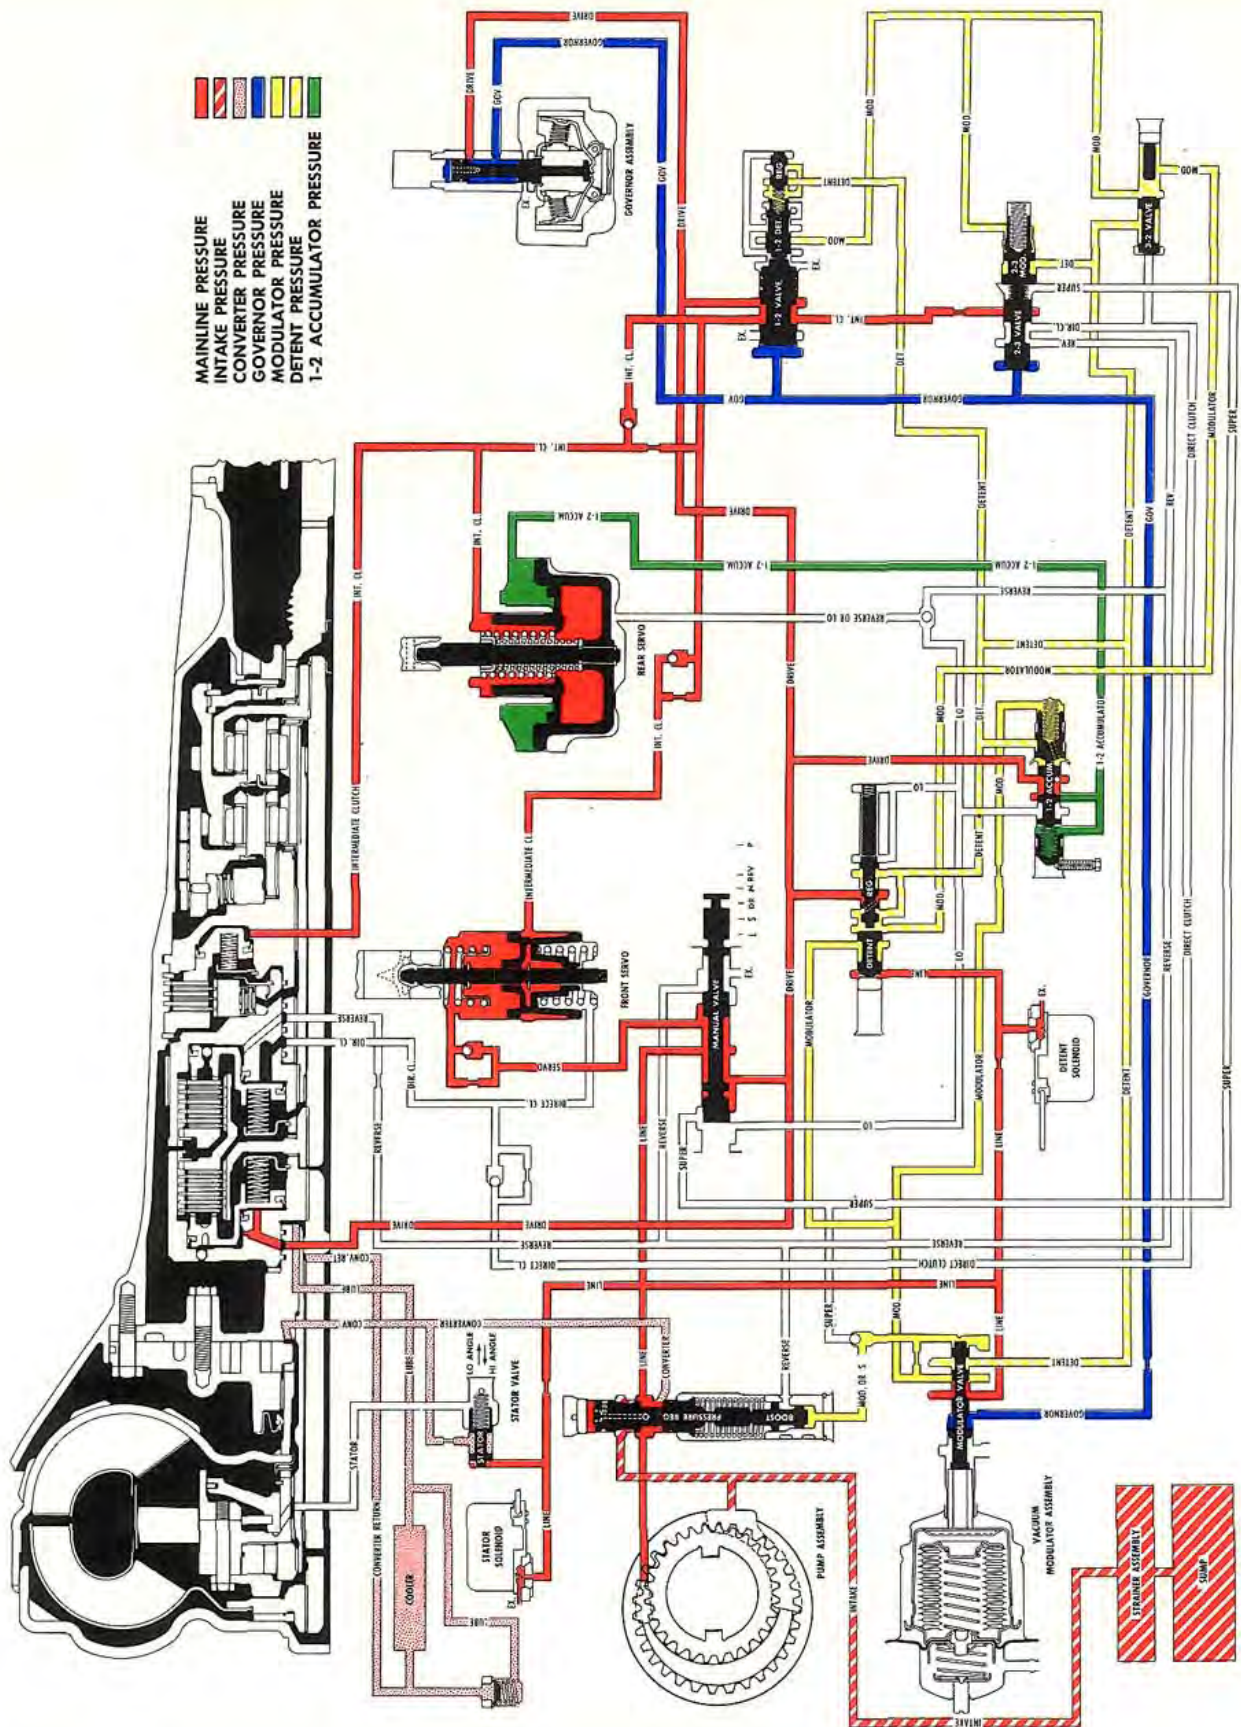

Fig. 6-19 Detent Downshifts
**OIL FLOW CIRCUIT (Fig. 6-19)****DETENT DOWNSHIFTS****(Valves in Second Speed Position)**